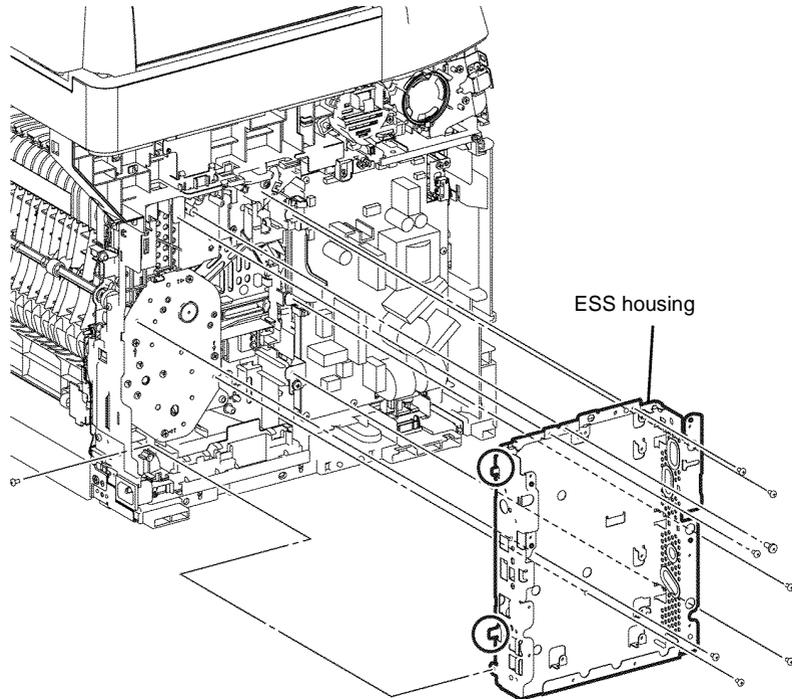

Figure 1 ESS housing removal
9. Remove six screws (silver, M3, 6mm), one screw (silver, tapping, M4, 10mm), one screw (silver, M4, 8mm) and one screw (silver, tapping, 10mm), that fix the ESS housing. Release the two tabs from the frame, then remove the ESS housing from the printer, Figure 1.